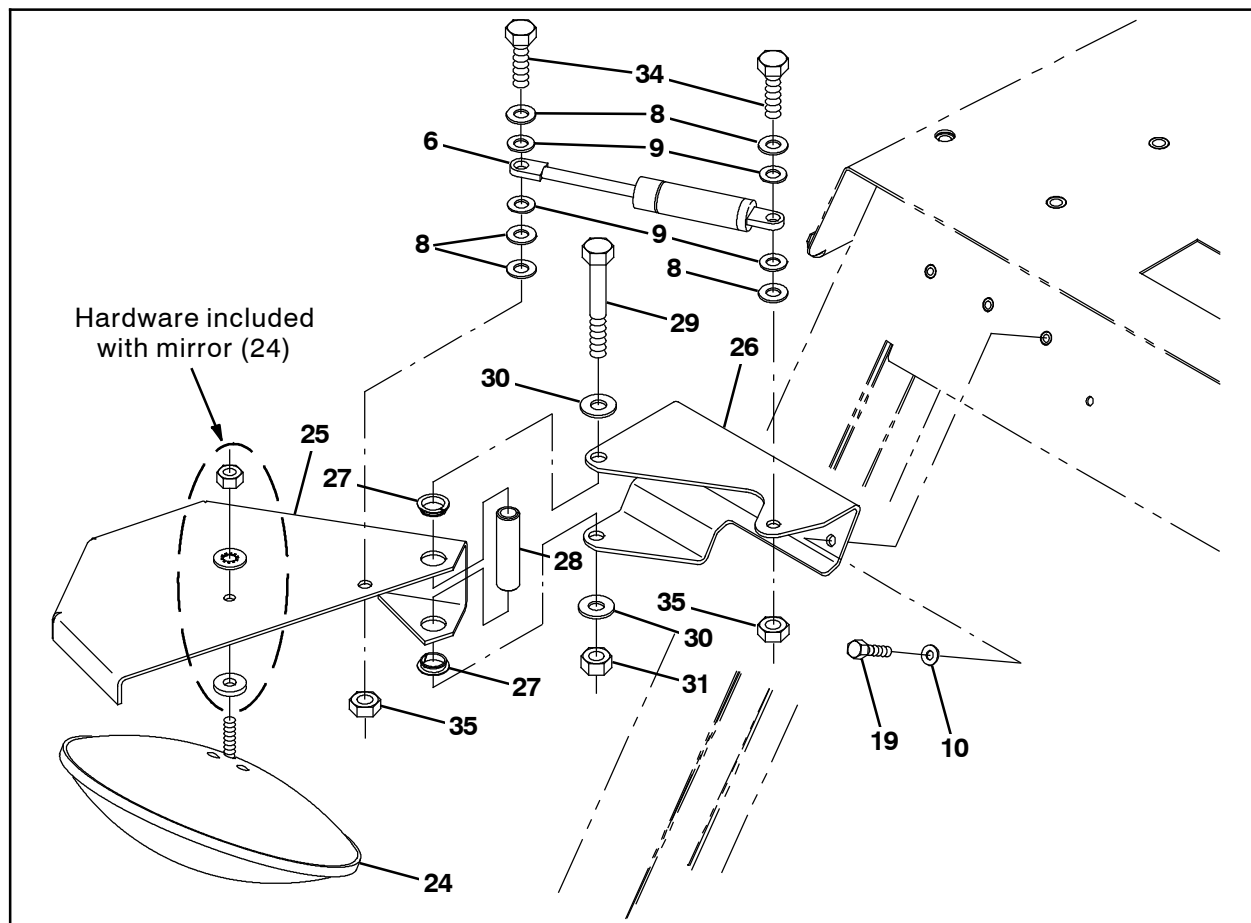

FIG. 14
30. Use a hex screw (29), a tube (28), two flange bushings (27), two flat washers (30), and a flange hex nut (31) to install the mirror guard (25) onto the mirror bracket (26). Do not completely tighten hardware. These items are tightened during later adjustment. (Fig. 14)
31. Use a hex screw (34), three flat washers (8), two nylon washers (9) and a hex nut (35) to install the gas spring (33) onto the mirror guard (25). Do not completely tighten hardware. These items are tightened during later adjustment. (Fig. 14)
32. Use a hex screw (34), two flat washers (8), two nylon washers (9) and a hex nut (35) to install the gas spring (33) onto the mirror bracket (26). Do not completely tighten hardware. These items are tightened during later adjustment. (Fig. 14)
33. Use the hardware included with the mirror (24) to install the mirror onto the mirror guard (25). (Fig. 14)
34. Use three hex screws (19) and three flat washers (10) to install the entire mirror assembly assembled in the previous steps onto the machine. (Fig. 14)
35. Adjust the mirror (24) and tighten mirror hardware. (Fig. 14)